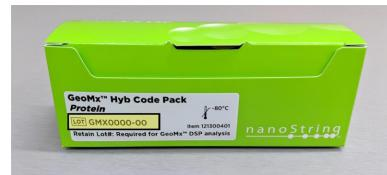

Figure 53: Hyb Code Pack lot number
- Enter the **GeoMx Hyb Code Pack** lot number (see Figure 53) to be used in downstream nCounter processing and click the **Update** button. If you do not know the lot number, you may skip this field and enter it when you upload nCounter counts.